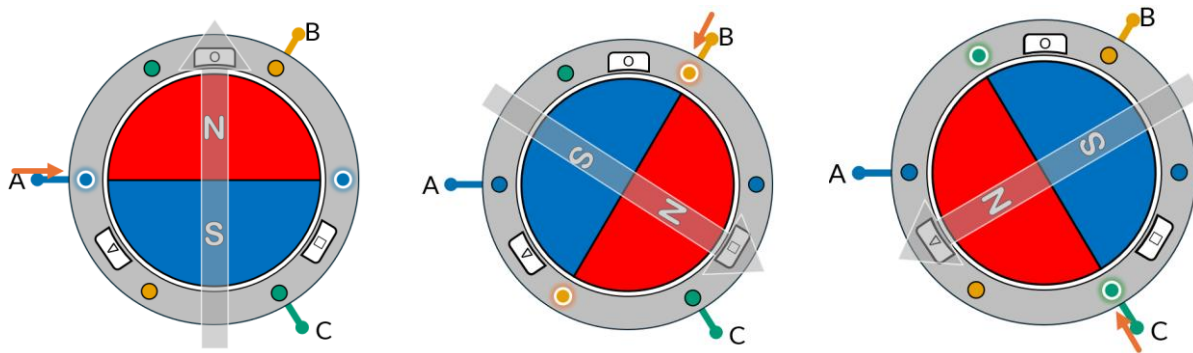

Figure 1. Magnet positions and magnetic fields when energizing a single coils with all 3 enabled
- As noted in the concept reviews, the hall sensor outputs a 1 when they detect a north pole in the magnet close by. When energizing a coil, a magnetic field is generated. In this special case where 3 coils are enabled, 1 as high and 2 as low, the magnetic field generated is as shown with a white arrow in Figure 1, which would move the magnet into the positions shown in the image. Note that the figure has coils named A, B, and C, and the sensors are denoted with shapes: a circle, triangle and square.
- Run `bldc_hall.py`, it will run for 30 seconds, look at the printed output, note what hall sensor goes high when each of the coils is activated. Note that the motor might feel like it changed and the print might happen a second later. It is expected. Based on that, where would you place sensor 1, 2 and 3 in Figure 1? Which one would be the circle, triangle and square?